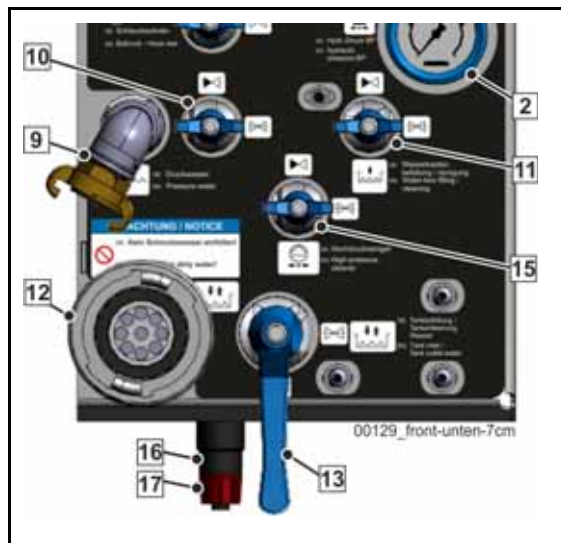

Fig. 573 Supply control
- Open the ball valve (4) (**Fig. 573**) and the turn-lock fastener (6) (**Fig. 573**) on the supply unit.
- After draining the pump, close the ball valve (15) (**Fig. 573**) and the turn-lock fastener (17) (**Fig. 573**) on the supply unit.